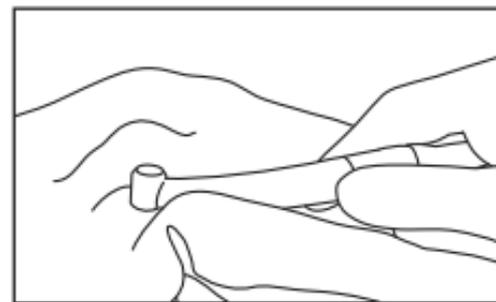

Fig. 11
- 3 Wipe the exterior of the handpiece and motor clean using a cloth moistened with disinfectant or ethanol with a concentration of 60-90% (Fig. 11). When using disinfectant, follow the instructions given by the manufacturer of the disinfectant.